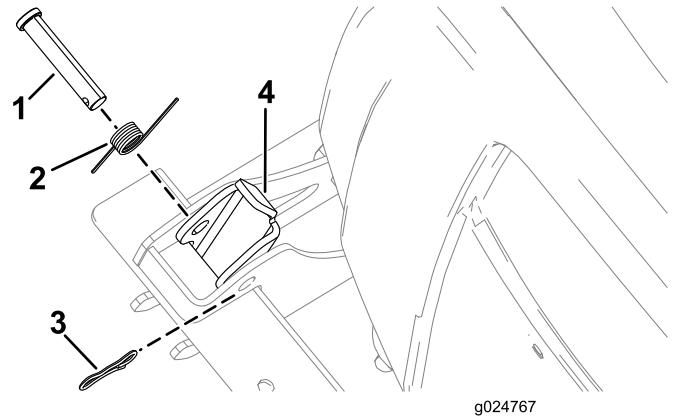

Figure 20
1. Remove the hairpin from the clevis pin (Figure 20).
2. Remove the clevis pin and spring from the latch (Figure 20).